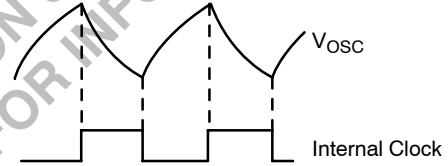

Figure 7. Oscillator Timing Network and Parameters
**ELECTRICAL CHARACTERISTICS (continued)** ( $-25^{\circ} \leq T_A \leq 85^{\circ}$  for CS2842A/CS2843A,  $0^{\circ} \leq T_A \leq 70^{\circ}$  for CS3842A/CS3843A.  $V_{CC} = 15\text{ V}^*$ ;  $R_T = 680\ \Omega$ ,  $C_T = 0.022\ \mu\text{F}$  for triangular mode,  $R_T = 10\ \text{k}\Omega$ ,  $C_T = 3.3\ \text{nF}$  for sawtooth mode (see Figure 7); unless otherwise stated.)
**ELECTRICAL CHARACTERISTICS (continued)** ( $-25^{\circ} \leq T_A \leq 85^{\circ}\text{C}$  for CS2842A/CS2843A,  $0^{\circ} \leq T_A \leq 70^{\circ}\text{C}$  for CS3842A/CS3843A.  $V_{CC} = 15\text{ V}^*$ ;  $R_T = 680\ \Omega$ ,  $C_T = 0.022\ \mu\text{F}$  for triangular mode,  $R_T = 10\ \text{k}\Omega$ ,  $C_T = 3.3\ \text{nF}$  for sawtooth mode (see Figure 7); unless otherwise stated.)